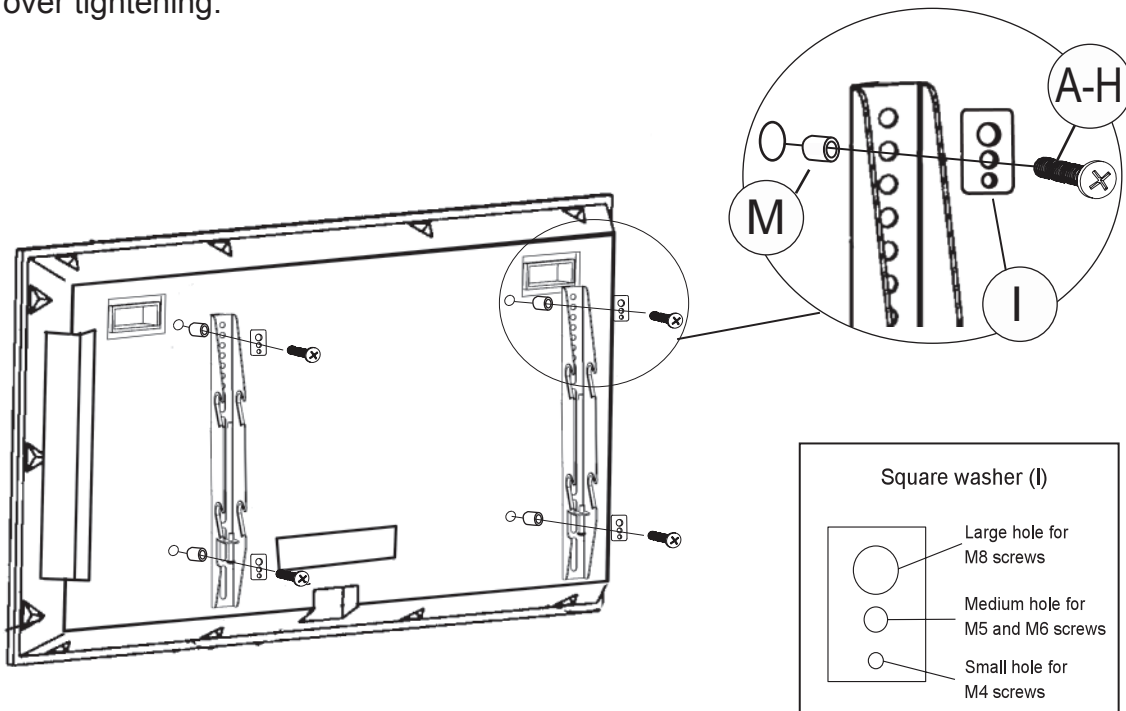

Fig. 1b
If your television has a curved back and mounting holes are recessed (Fig a), spacers are required. Install the spacers (M) between the display and the bracket as shown in Fig 1b. Then, use the appropriately selected bolts (A-H) applicable to your TV and the square washers (I) to install the brackets with spacers to the back of the television. Make sure that the two brackets are equal in height and are level. Once the brackets are aligned, securely tighten the bolts (Fig 1 b). If necessary, use additional washers (N,O) to make sure the Bolts (A-H) keep the brackets snug to the rear of the TV without over tightening.